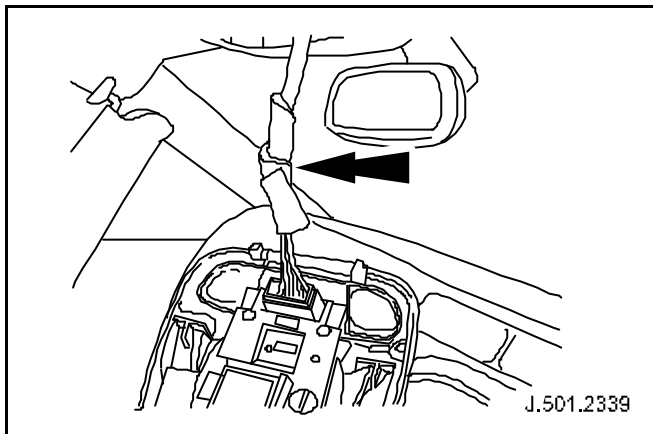

Fig. 8
- Foam wrap the looms. (See Fig. 8 and 9)